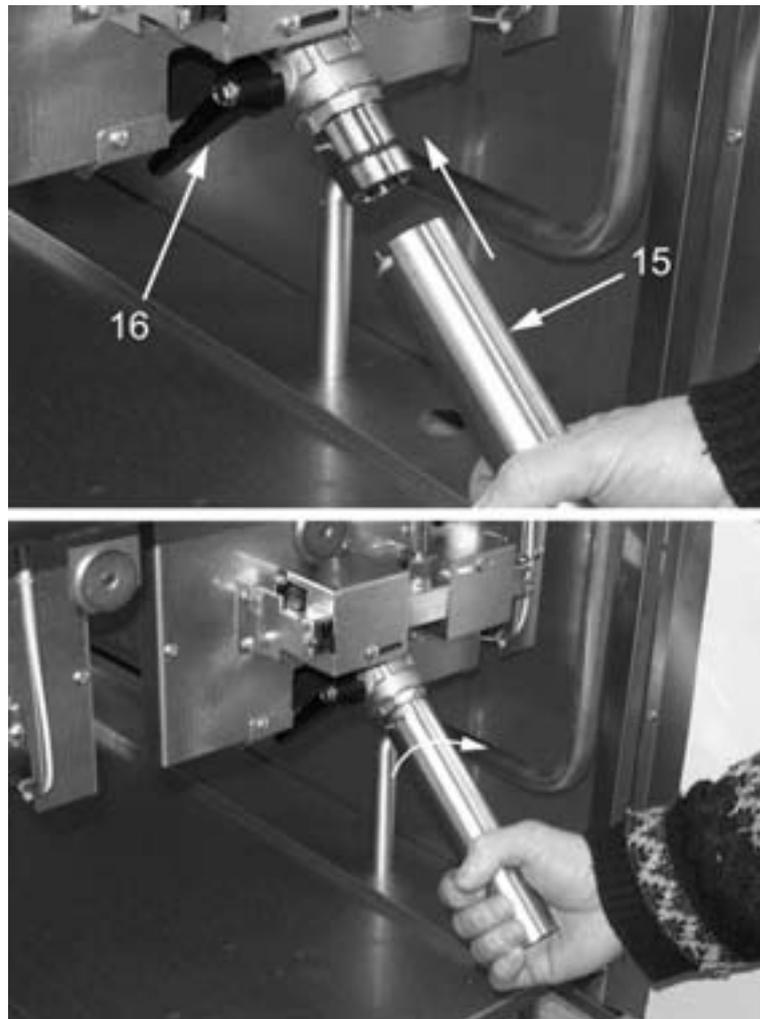

Fig. 5
1. insert the drain pipe (item 15 in Fig. 5) into the drain valve and turn the pipe to lock it;
3. turn the lever (item 16) to open the valve.